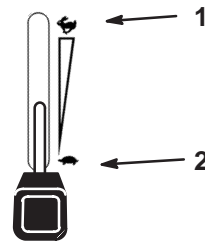

Figure 18
1. Move the throttle lever to **slow** (Fig. 18).